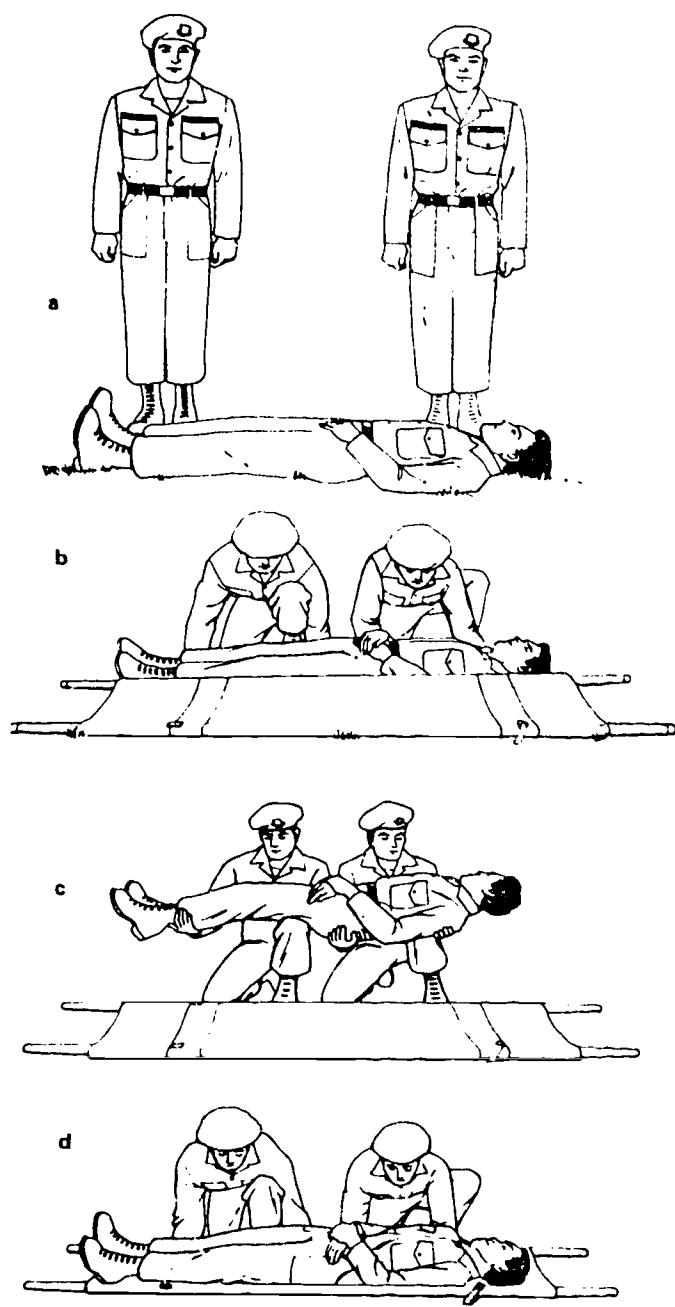

Figure 1-11. Two person litter lift.
**Putting the Injured on the Litter.** At this point, you know how to make and use a litter, and, obviously, you know that at least two people should carry a litter. As a minimum, two people are needed to place the victim on a litter. You and another person could move a victim from the ground to a litter (See fig. 1-11) in this way: